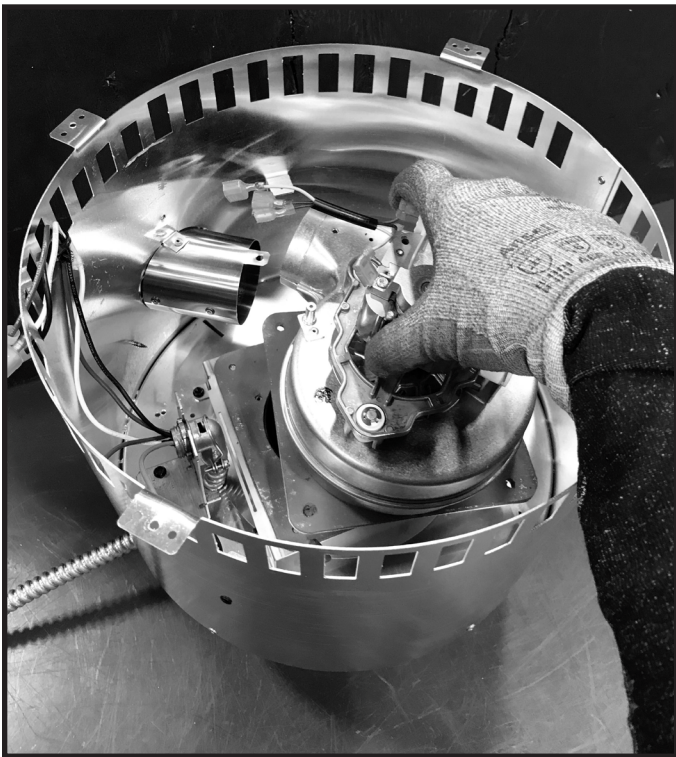

Figure 5.9 Remove Blower Assembly
9. Slide the blower out of the blower extension and lift it out of the power vent housing. See Figure 5.9.